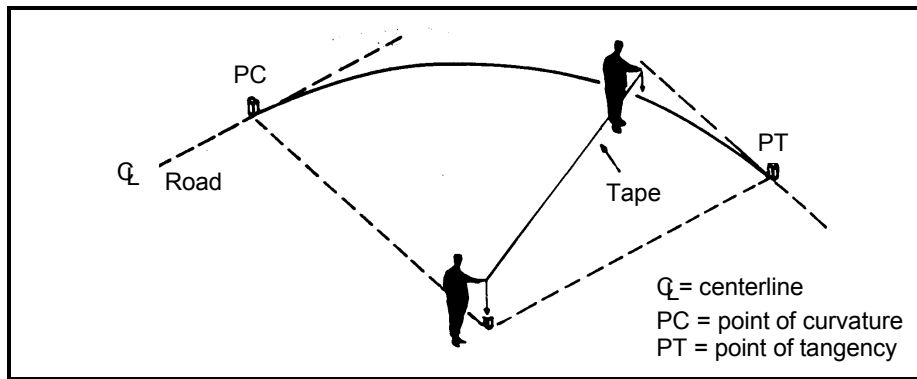

Figure 1-6. Using a Tape to Determine the Radius of Curvature
(1) The radius of curvature may be estimated by using a tape to swing an arc (*Figure 1-6, page 1-6*). The curve is inscribed as part of a circle by swinging an arc with a tape from an estimated center of a circle. The length of the tape from the center of the circle to its circumference is the radius of curvature.